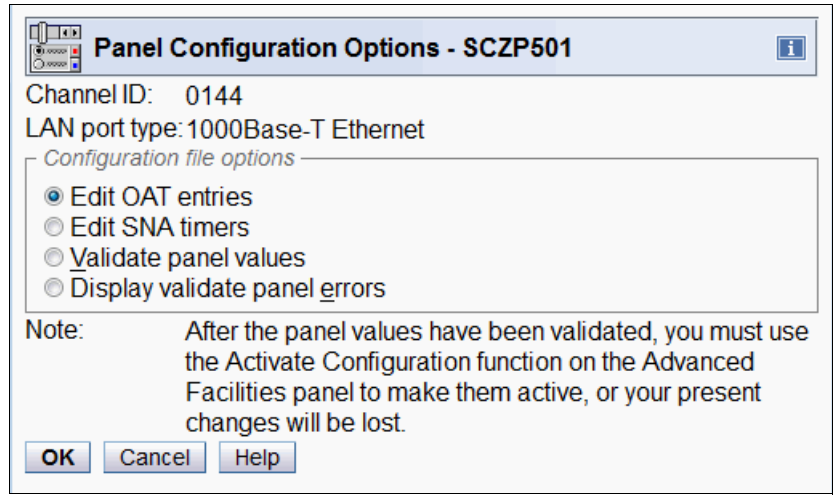
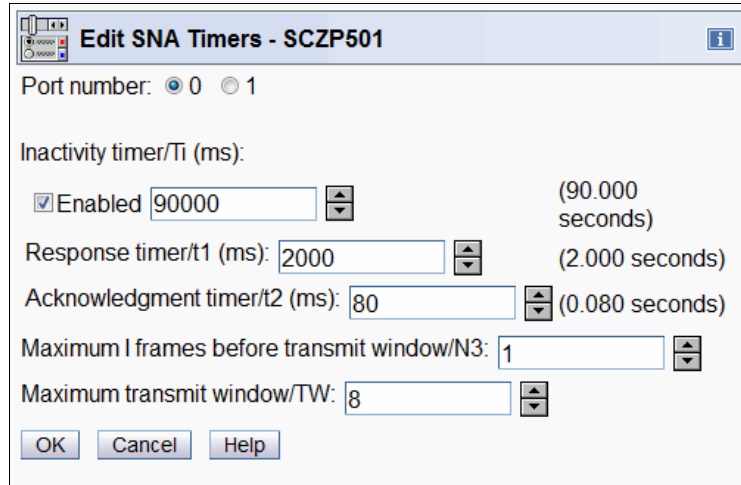

Figure 14-5 OSA/SF on HMC: Configuration file options
Figure 14-11 OSA/SF on HMC; Edit SNA Timers panel
5. Panel Configuration Options opens (Figure 14-5 on page 657). You can define these items:
- If you select **Edit SNA timers** in the Panel Configuration Options panel (Figure 14-5 on page 657), you see the Edit the SNA Timers panel. If you change the SNA timer setting, edit the value on this panel (Figure 14-11).